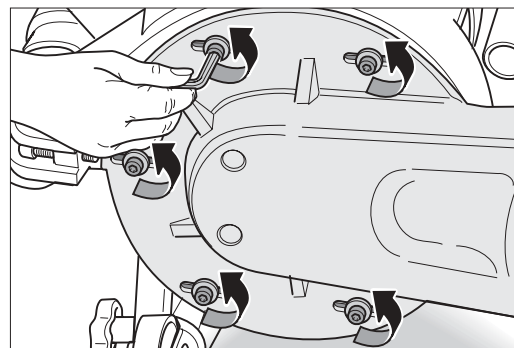

Fig. 57: Undoing the five fastening screws of the attachment. Do not unscrew the screws all the way out!
- 5 Use the proper Allen key to undo all five screws with which the attachment is installed on the fan housing (Fig. 57). Do not unscrew this screw all the way out!